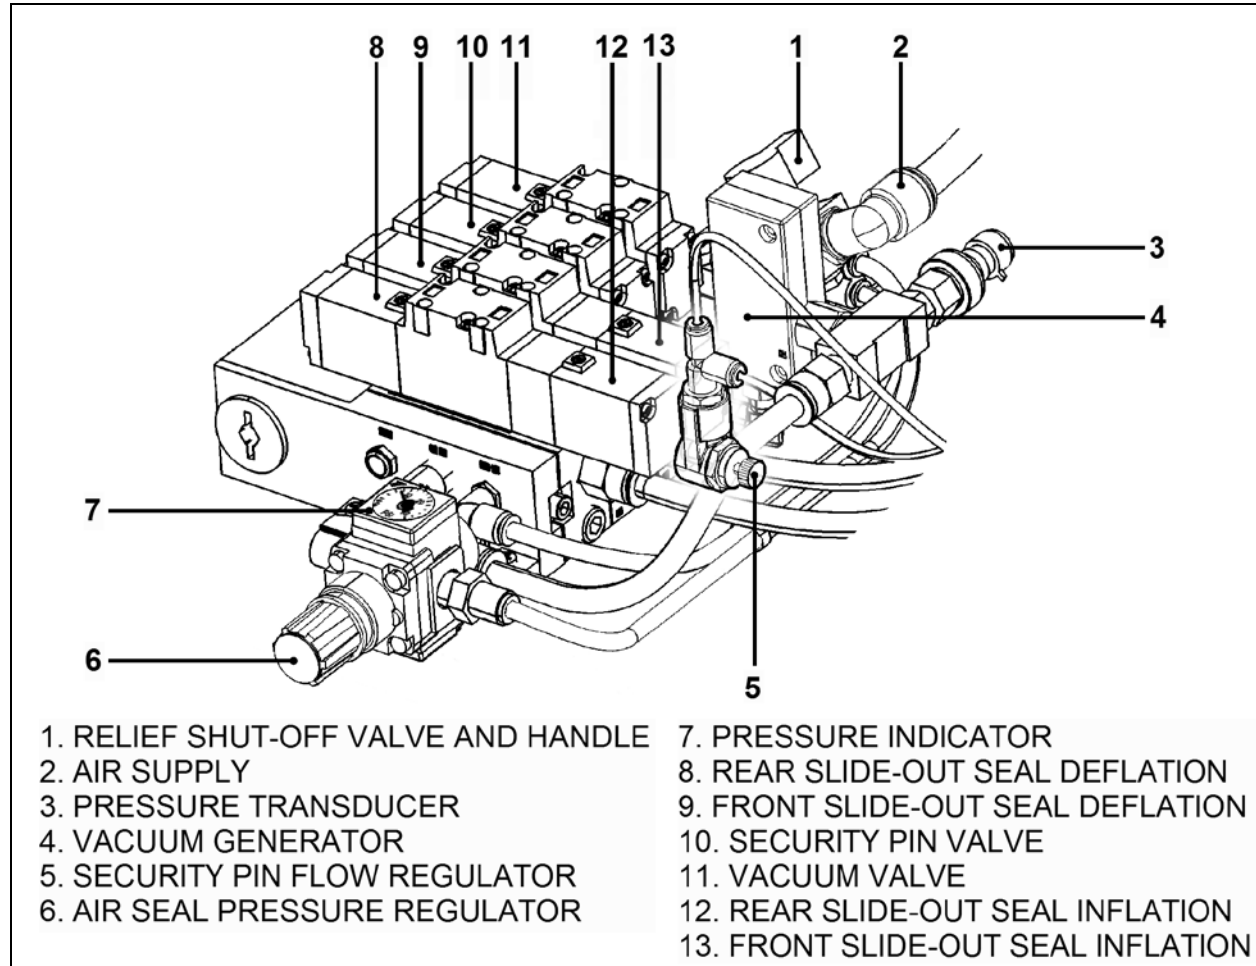

FIGURE 32: PNEUMATIC COMPONENT PANEL
The supply line for the pneumatic component panel (Item 2, Figure 32) is connected to the air pressure inlet valve on the pneumatic panel in the front service compartment.
Make sure the inflatable seal is deflated when manually moving the slide-out during service maintenance. Deflate inflatable seals completely by turning the relief shut-off valve handle clockwise (see Figure 32, Item 1).
1. Fully deflate the air seal by turning the shut-off valve clockwise (Item 1, Figure 32). Make sure the pressure indicator is at "0 psi".